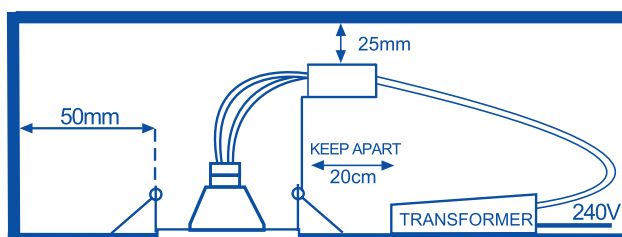

Fig. 1
1. Select the required position for the luminaire the clearances shown in Fig.1 are observed. Beware of joists, water pipes and electric cables. Use the cut-out template on the inside lid of the box to cut a hole in the ceiling for the type of luminaire to be fitted.